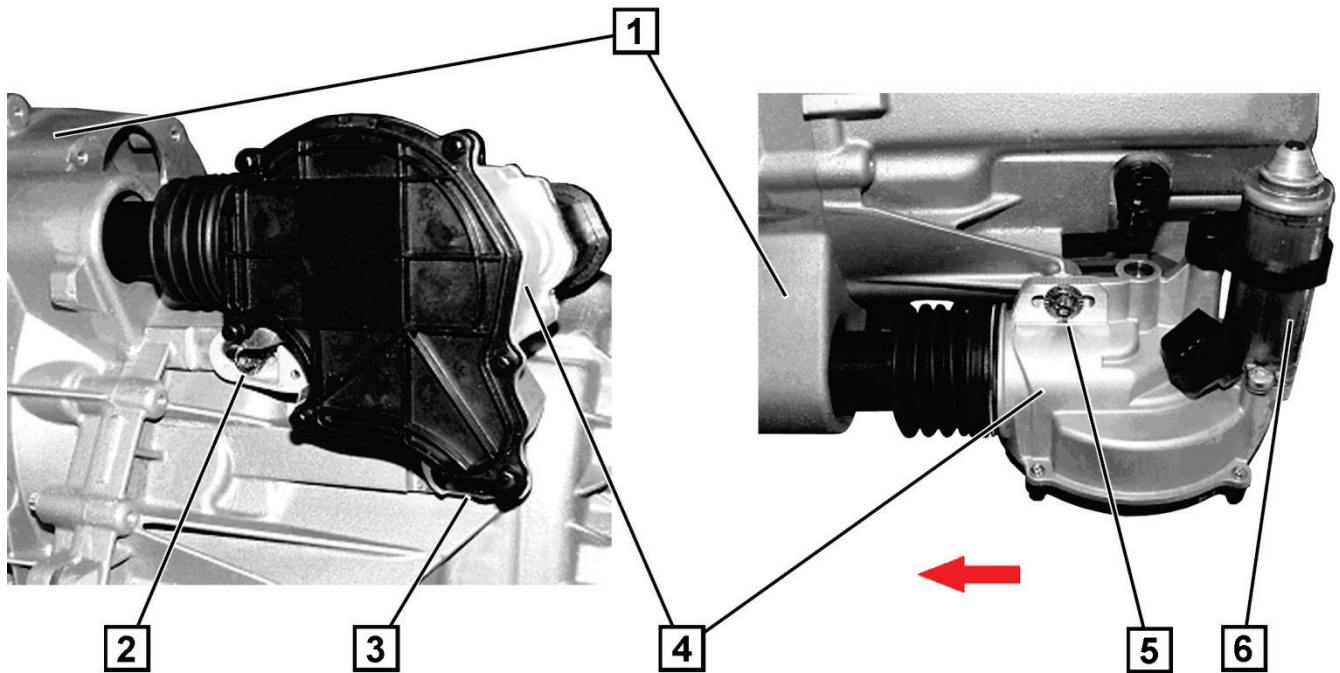

Fig. 1: Clutch actuator: smart fortwo (451)/ smart forfour (454) / Mitsubishi Colt VI (Z_)
1. Position the clutch actuator (5) in the clutch bell housing (3) in such a way that the tappet is lying securely on the tappet mount of the clutch release lever.
3. Press the clutch actuator 3 scale markings (± 6 mm) in the direction of the arrow (Fig. 1).